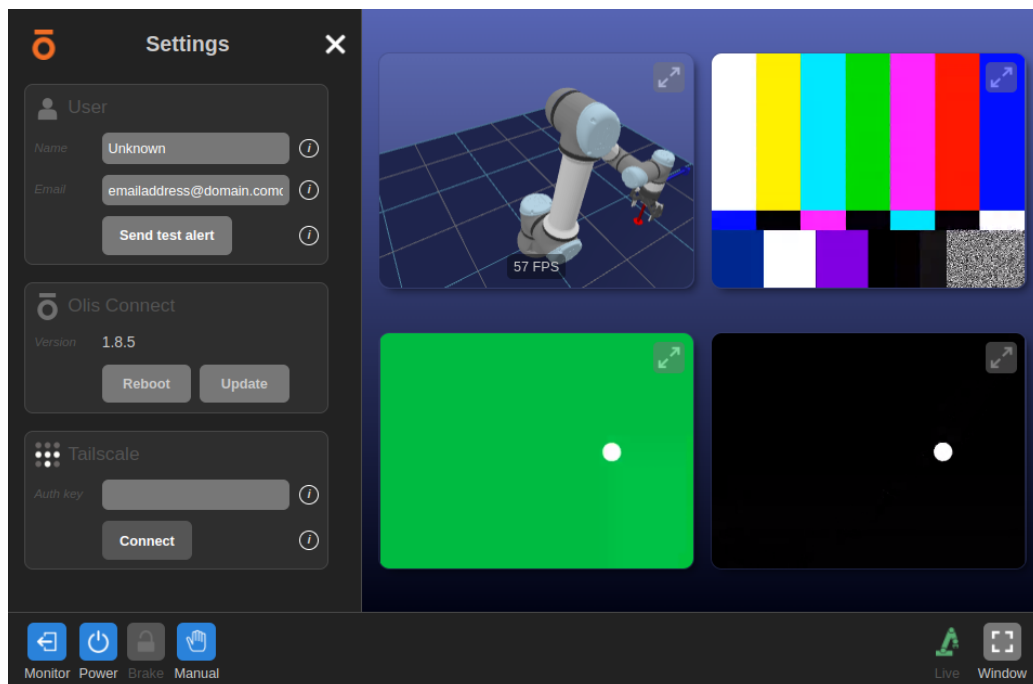

Figure 14: The Olis Connect settings page.
- On the Olis Connect website, navigate to the Setup panel (Figure 14), enter your Tailscale authentication key, and press 'Connect'.